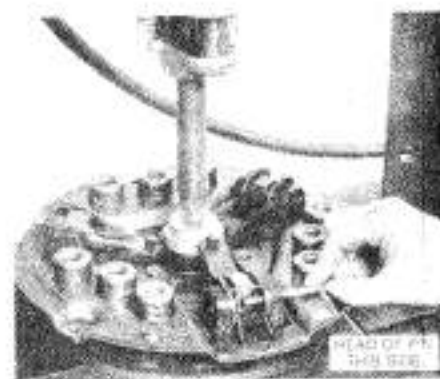

Fig. 121—Use a press to disassemble and reassemble split torque clutch. Be sure unit is assembled with head of pivot pin on leading side as shown.
**118. OVERHAUL.** To disassemble the removed pressure plate cover unit, place the assembly in a press as shown in Fig. 121 and apply only enough pressure to relieve tension on pins. Remove pins (1—Fig. 120) and lift off cover. Inspect release levers and pins for wear or damage and pressure plate for scoring, heat checks or wear at actuating pin holes. Pressure plate must not be resurfaced. It is permissible to resurface flywheel friction surface to a maximum depth of 1.0 mm (0.040 inch). An equal amount of material must also be removed from clutch mounting surface of flywheel to maintain correct clutch spring tension. Inspect splines in pto drive hub for wear or damage. Renew clutch springs if there are indications of heat discoloration or distortion.
Reassemble by reversing the disassembly procedure making sure that assembly punch marks are aligned. Install release lever pivot pins with heads leading in direction of clutch rotation as shown in Fig. 121.